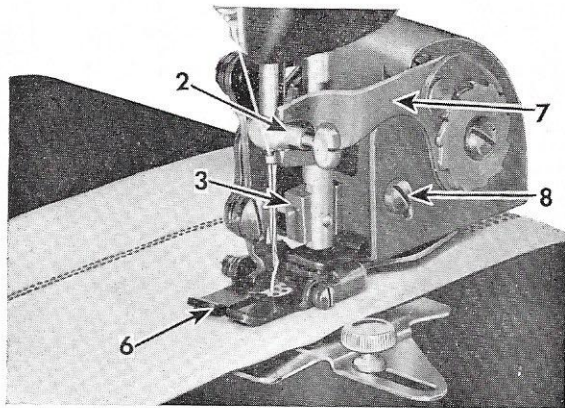

Fig. 3
4. Lower presser bar so that attachment rests on feed cover plate and loosen screw (8, Fig. 3).